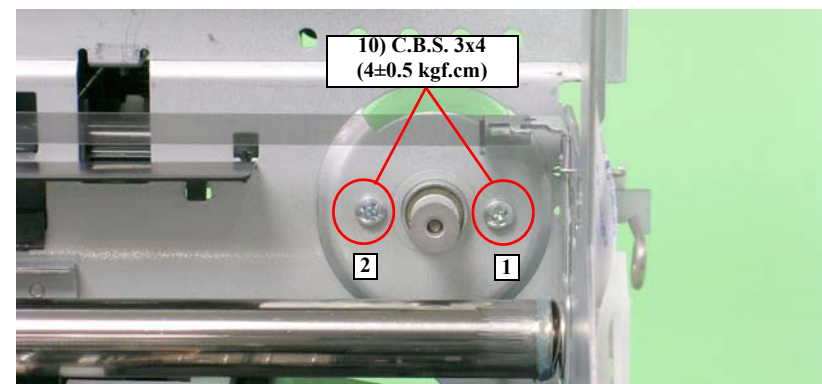

Figure 4-132. Removing the CR Motor
- Tighten the screws in the order shown in Figure 4-132.